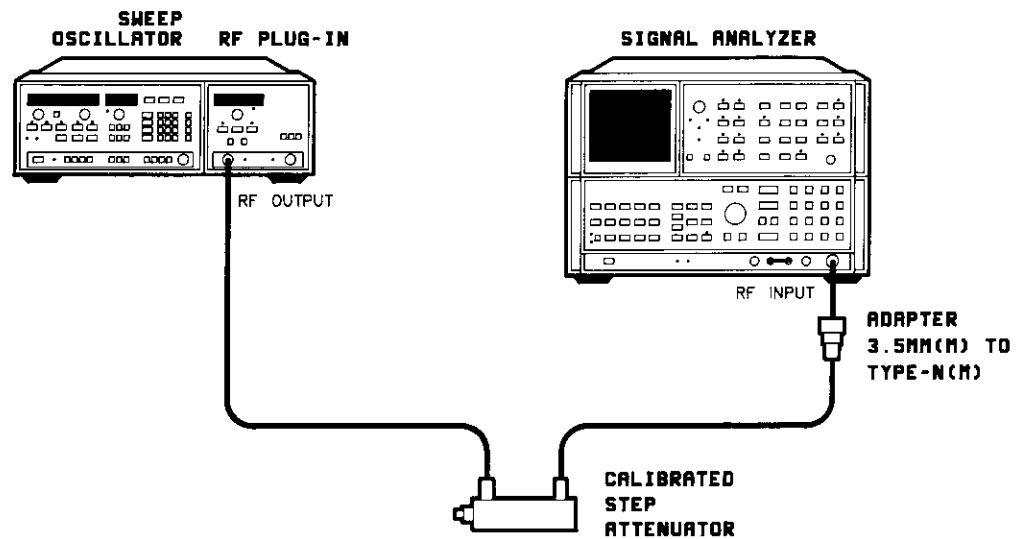

Figure 4-11. Attenuator Accuracy Test Setup
1. Connect the equipment as shown in Figure 4-11. Turn the instruments on and allow 30 minutes to warm-up.